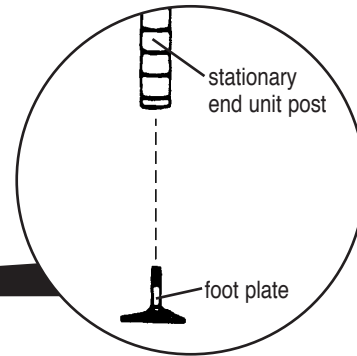

Figure 2
2. Screw adjustable flat foot plate into bottom of the stationary post (see *Figure 2*).